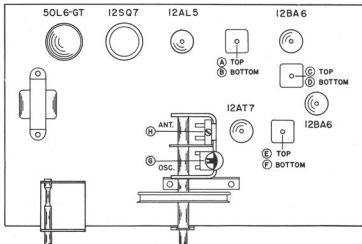

Fig. 4. Top View of Chassis Showing Location of Alignment Adjustments and Tubes
TUBE REPLACEMENT - The tube types and their relative location in the receiver are shown in Fig. 4. Access to all tubes is possible by removing the cabinet back cover. When installing a replacement octal tube: (1) Insert the center guide pin of the tube into the center hole of the tube socket (2) Rotate the tube until the key on the guide pin drops into the notch in the socket hole and (3) Push down on the tube until the base of the tube rests firmly on the socket. When installing a replacement miniature tube, line up the seven pins on the tube with the socket holes before pushing the tube into place. Handle all tubes with care as they are fragile and will not withstand mechanical abuse.
- Refer to Fig. 4 for location of all alignment adjustments.
- Refer to Fig. 4 for location of alignment adjustments.